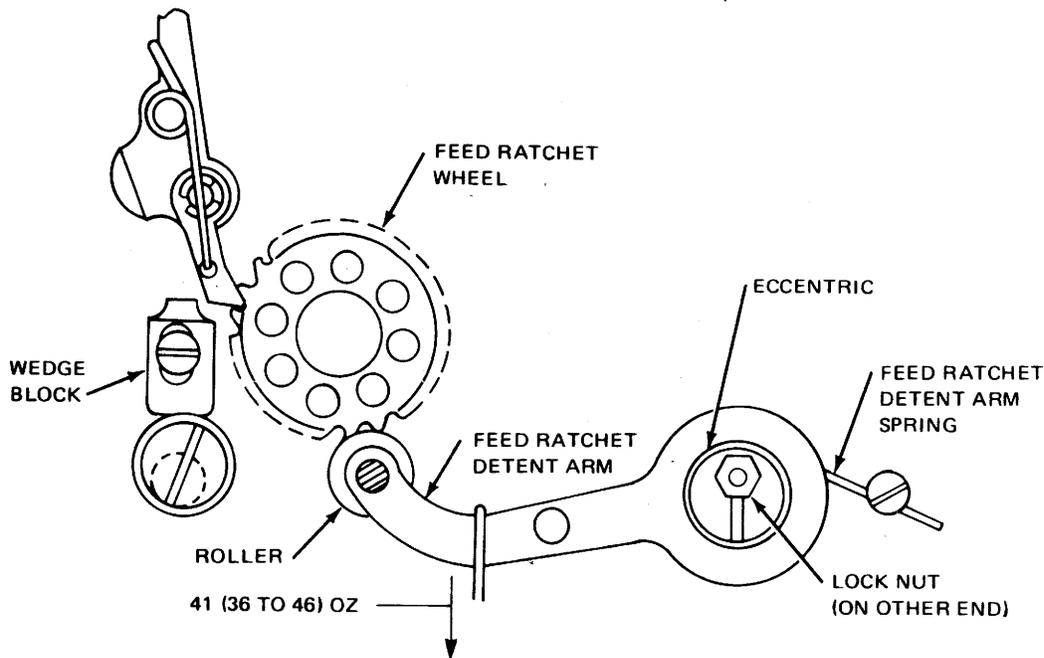

Figure 6-30. Feed Ratchet Detent Arm Adjustment.
- 3. Adjust feed ratchet detent arm (see figure 6-30).
4. Adjust feed ratchet detent arm spring (see figure 6-30).